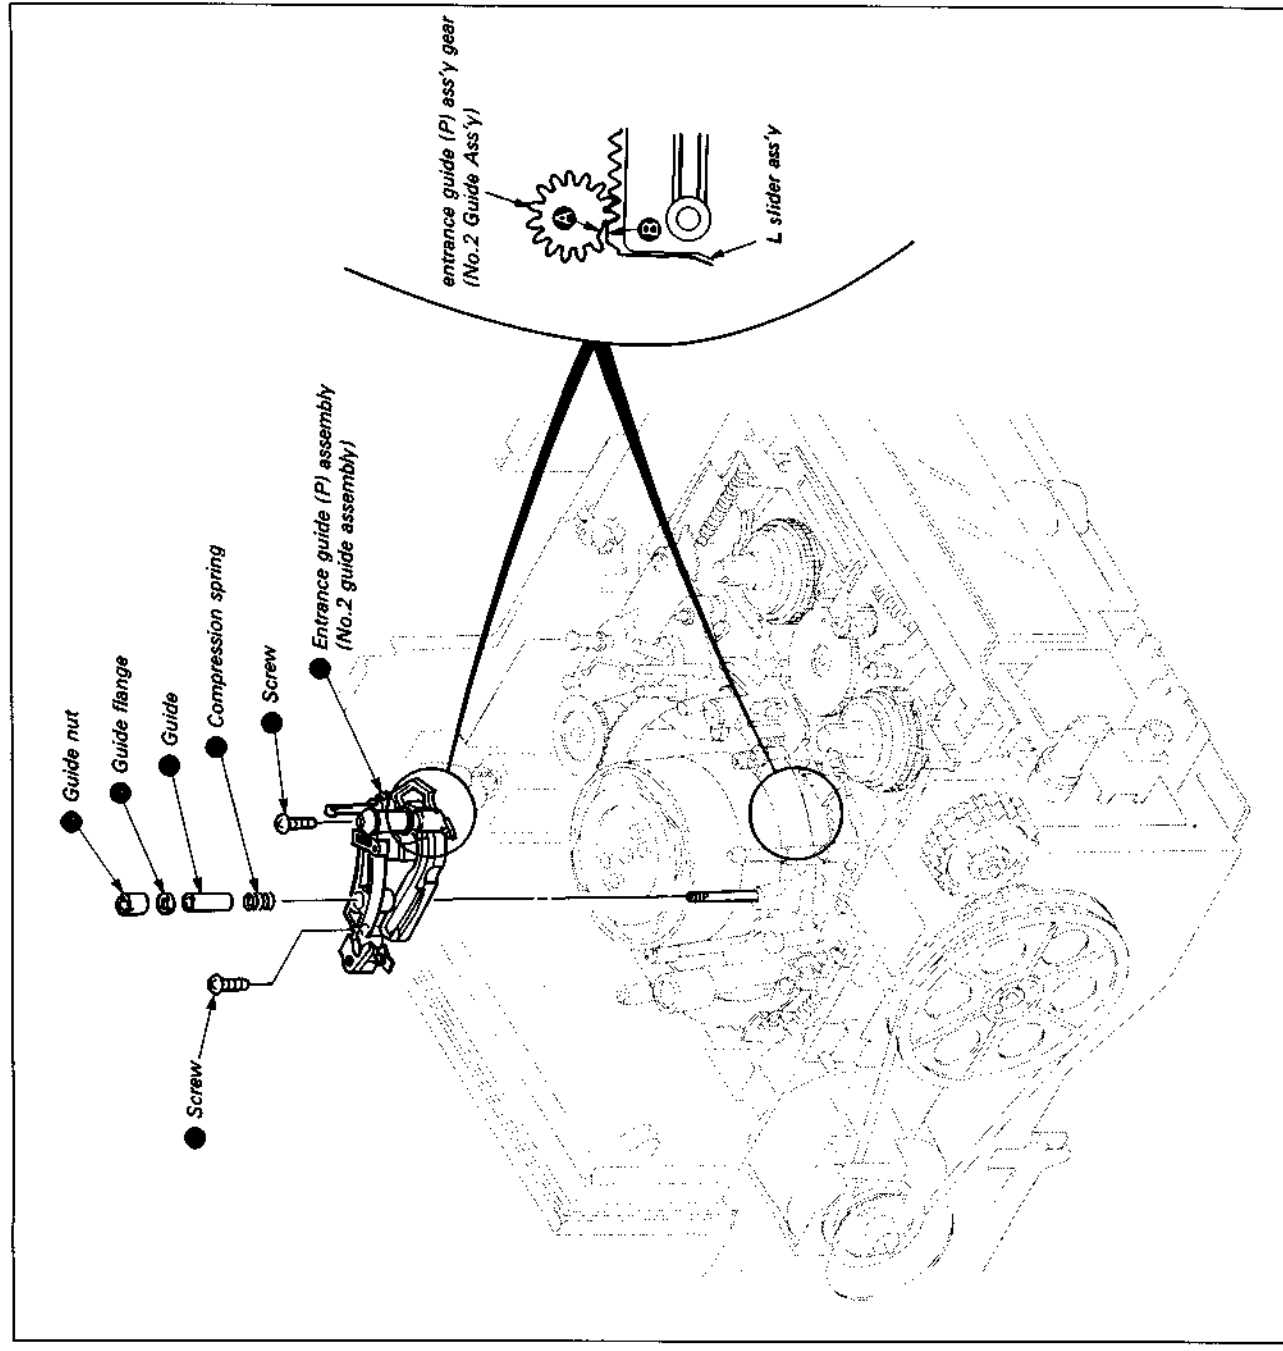

Fig. 7-29.
7-3-10. Entrance Guide (P) Assembly (No. 2 Guide Assembly) (See Fig. 7-29.)